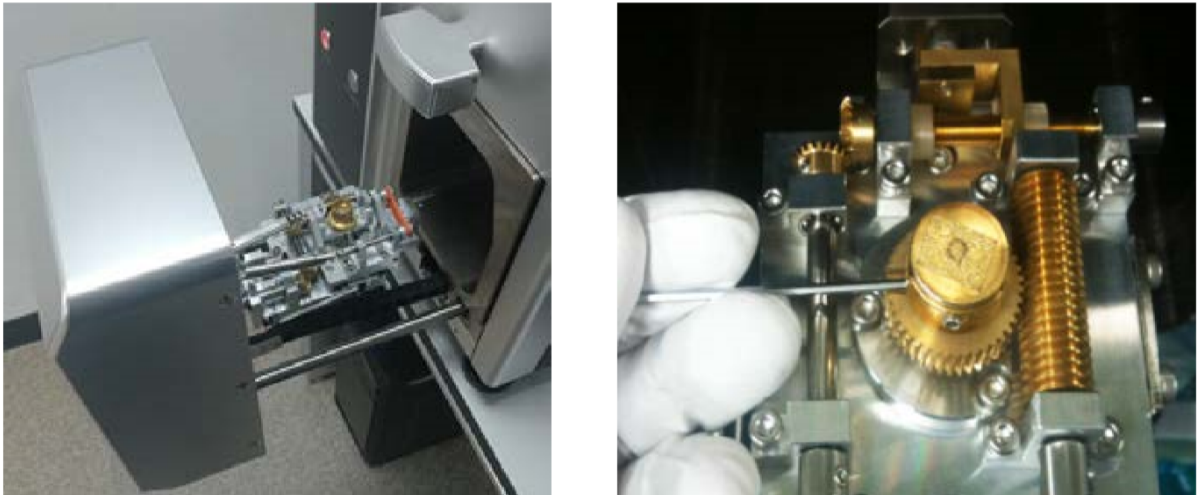

Figure 5. Mounting the stub to the stage.
- a. Use a 1.5 mm allen wrench to carefully loosen the set screw, then insert the mount with the specimen to the stage, and tighten the set screw (Figure 5).
4. Remove your specimen mount from the holder (Figure 5)